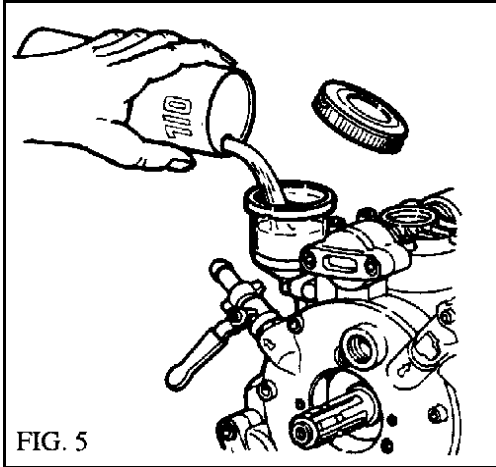

FIG. 5
a) if this happens during the first hours of working it is normal. Add SAE 30W non-detergent type oil to proper level as in fig.5.